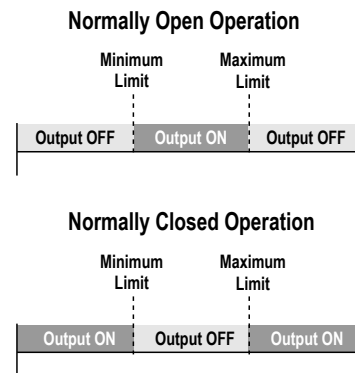

Figure 3. Teaching independent minimum and maximum limits
Configure the sensor for either normally open or normally closed operation using the remote teach wire (white). A series of three pulses on the line toggles between normally open (NO) and normally closed (NC) operation. Normally open is defined as the output energizing when the target is present. Normally closed is defined as the output energizing when the target is absent. (See Figure 3 on page 3 and Figure 4 on page 4.)